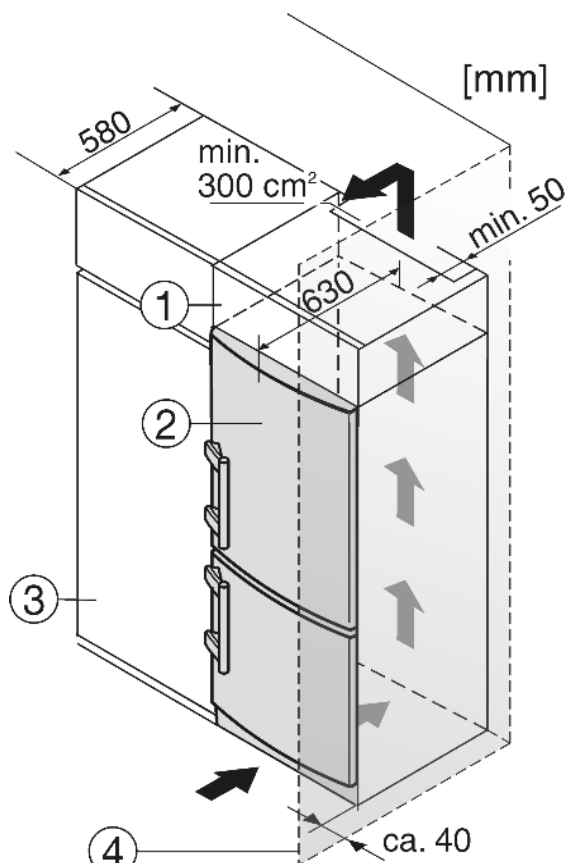

Fig. 13
The appliance can be inserted into a row of kitchen units. To match the appliance *Fig. 13 (2)* to the height of the row of units, a suitable stack cabinet *Fig. 13 (1)* can be fitted above the appliance.
When inserting the appliance into a row of kitchen units (max. depth 580 mm), the appliance can be installed directly next to the kitchen unit *Fig. 13 (3)*. The appliance door projects relative to the front of the kitchen unit by 34 mm at the side and by 50 mm in the middle of the appliance. It can be opened and closed perfectly as a result.
If the appliance is installed with the hinges next to a wall *Fig. 13 (4)*, the distance between appliance and wall has to be at least 40 mm. This corresponds to the projection of the handle when the door is open.